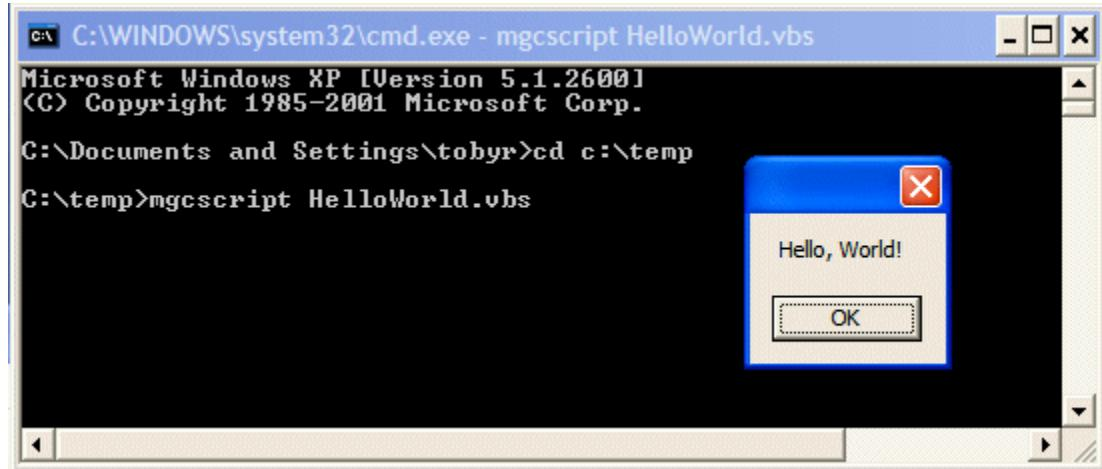
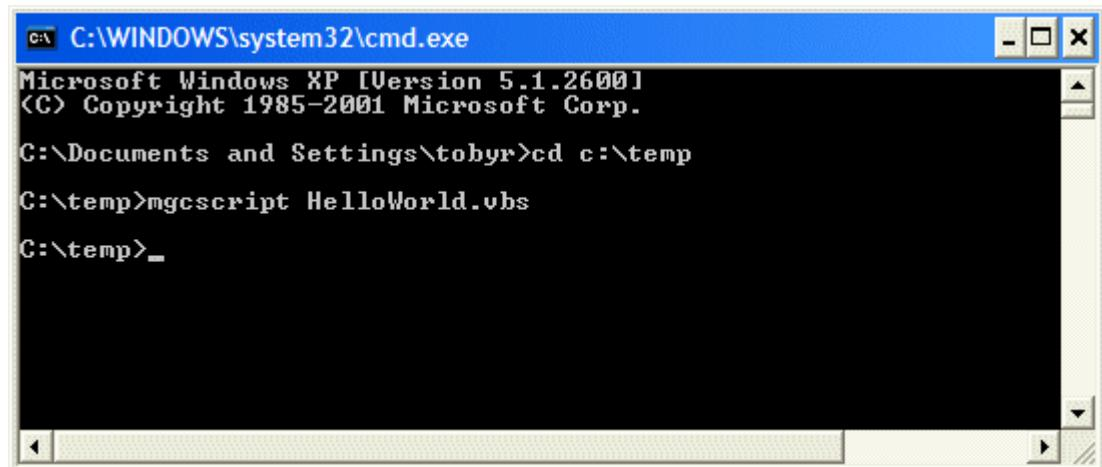

Figure 8-7. Running the `HelloWorld` script from the command line.
Figure 8-8. The command line prompt reappears when the script stops running.
- 4) Mentor's scripting engine is called *MGCscript.exe*. Type *mgcscript HelloWorld.vbs* and press the <Enter> key. This calls the *MGCscript.exe* scripting engine and passes the *HelloWorld.vbs* script to it as an argument. The script runs as illustrated in Figure 8-7.
- 5) Observe that the command line prompt has not reappeared in Figure 8-7. This is because the script is still running. Click the **OK** button to dismiss the `MsgBox()` and terminate the script, and observe that the command line prompt reappears (Figure 8-8).